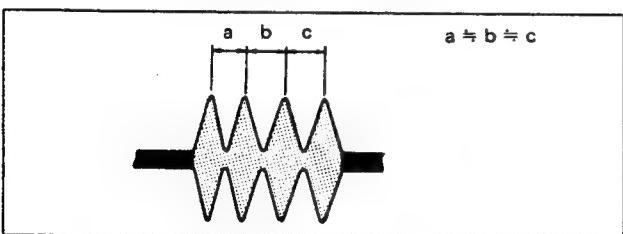

Fig. 2-43.
Make sure that the waveforms have equidistant peaks (See Fig. 2-43).
- 2) Set in CUE mode. Make sure that the waveforms have equidistant peaks (See Fig. 2-43). If not, perform according to para 2-7-4, Tracking Fine Adjustment.